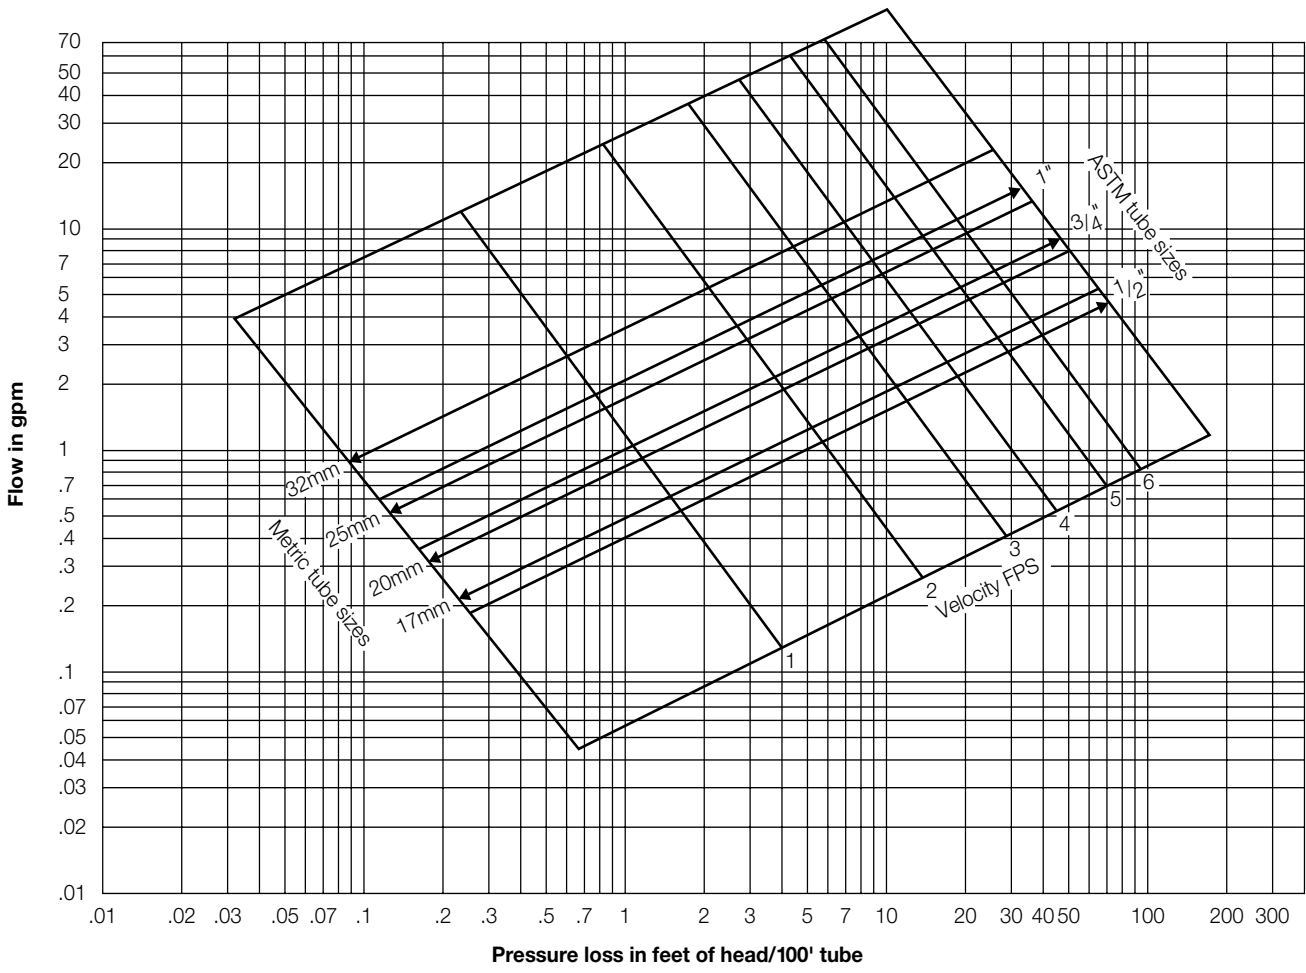

Fig. 4.8:
4.3.7 Pump sizing data - Using the flow rates for each circuit from DCRF Page 3, enter the pressure loss chart (Figure 4.8) until you intersect the tube size line. Then follow the line vertically down to the pressure loss.
This table is used to determine the settings for the fine regulation valve in the heating circuit distribution manifold. Pressure losses computed for individual circuits from Figure 4.8 are the basis for determining these valve settings.